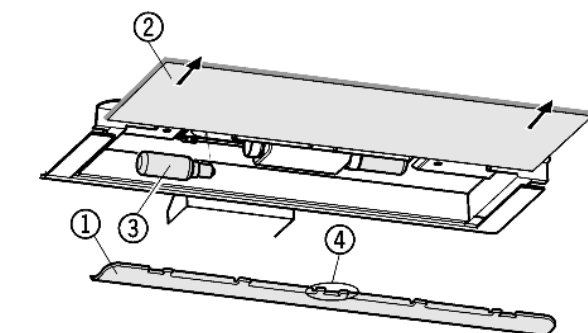

Fig. 13
- ▶ To remove the cover *Fig. 13 (1)*: put your finger behind the cover and disengage it.
- ▶ Pull out the glass shelf *Fig. 13 (2)*.
- ▶ Change the bulb *Fig. 13 (3)*.
- ▶ Attach the cover again, engage it at the right and left and pay attention that the middle hook *Fig. 13 (4)* grips over the glass shelf.